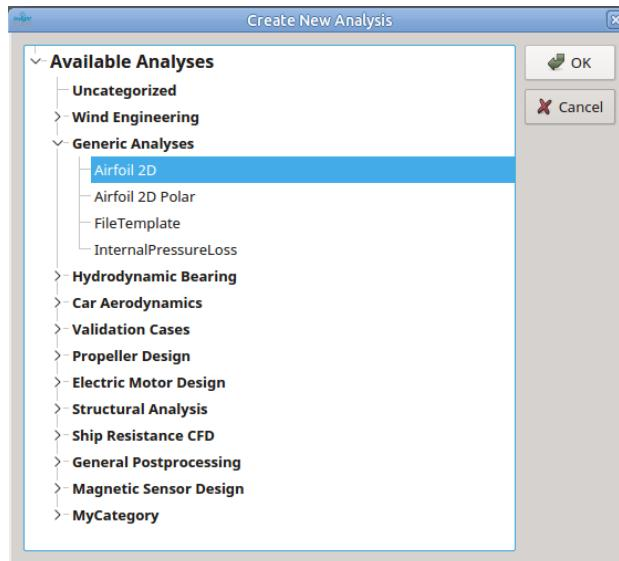

Figure 4: Dialog for selection of the type of a new analysis
**Creating a New Analysis** A new analysis is created by selecting in the menu **Analysis** **New...**. Then a new dialog appears, in which the list of available analyses is displayed (figure 4). The required analysis should be selected and confirmed by clicking "Ok".